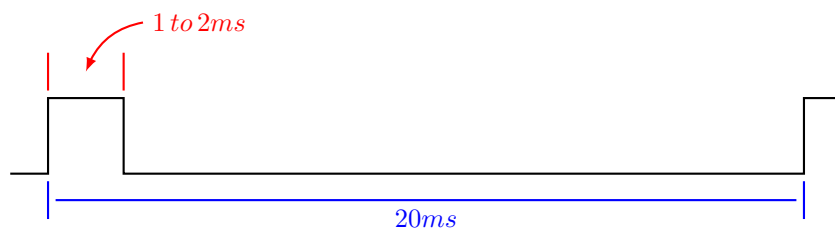

Figure 3: Timing Requirements for Servo PWM
1. Modify your program from Day 15 to generate a PWM signal due to a changing potentiometer input on analog channel 3. The PWM signal must meet the following timing specifications shown in Figure 3. Verify that the PWM signal is correct with Waveforms before moving on.